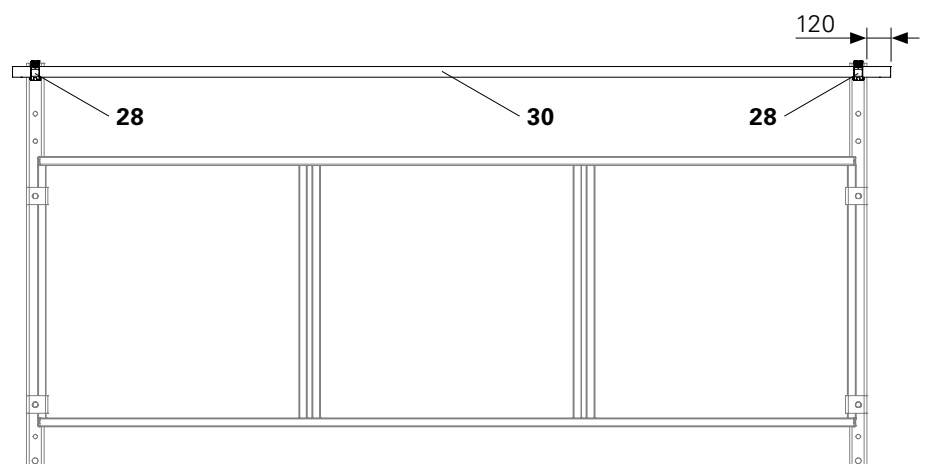

Fig. B3.05
1. Attach 1x Scaffold Tube Steel  $\text{Ø} 48.3 \times 3.2$ ,  $l = 4.0$  m (30) to the Screw-On Couplings AK 48 (28) on each side. (Fig. B3.05)